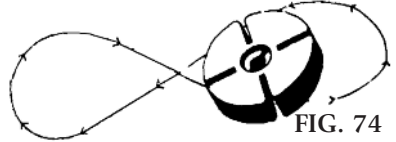

FIG. 74
3. If the fan is hard to turn when the motor end cover is installed, but easy to turn when loosened, the rotor should be removed and lightly sanded. Remove the rotor and lightly sand by placing rotor in the palm of hand and sanding on a flat surface making figure eight rotations (FIG. 74). (Use the finest grade of sandpaper available.)